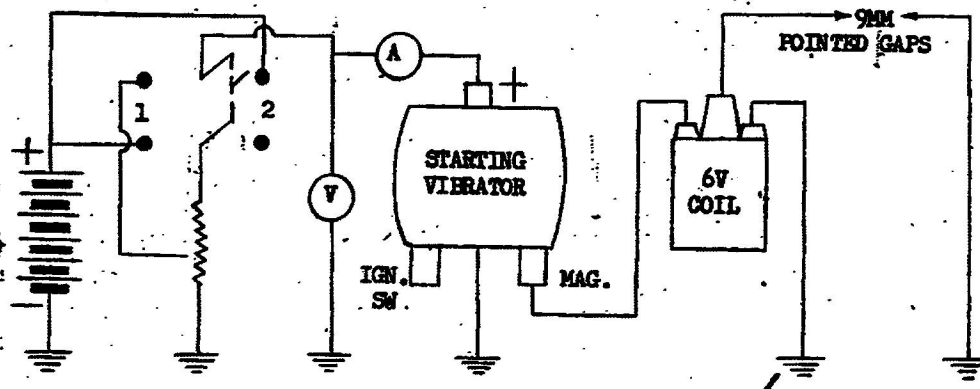

FIGURE 2 - WIRING DIAGRAM - TEST AT OVERHAUL
- (b) The equipment above should be wired as shown in Figure 2 of this specification.
- (a) With switch in position marked "1" in Figure 2, drop voltage by means of potentiometer to nearly zero and then gradually increase voltage and note the point of cut-in, or volts at which the relay points close. If other than 8 to 10 volts, turn the relay armature plate tension adjusting nut or in extreme cases, change relay contact point opening within limits, to obtain the proper cut-in point.
- (a) Throw the switch to the position marked "2" in Figure 2, and note ammeter reading. If other than 2.6 to 3.1 amperes, adjust both vibrator and tension arms evenly until proper ammeter readings are obtained. After this adjustment, the unit must fire the 9 MM gap without missing.